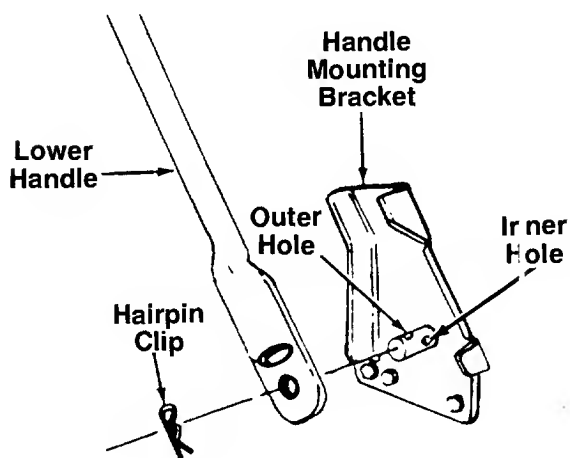

FIGURE 1.
2. Using a pair of pliers, squeeze one leg of the lower handle against the handle mounting bracket. Insert the hairpin clip into the **inner hole** on the weld pin. See figure 1. Repeat on other side.